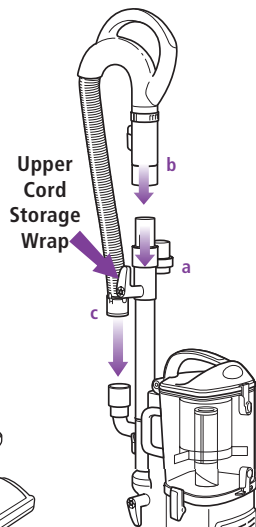

Fig. 9
- 4 Slide the accessory holder (a) positioned opposite the upper cord wrap, over the extension wand. Align the tab with the groove and push down. (Fig. 9)
- 5 Push the handle (b) onto the top of the extension wand until you hear it click into place. (Fig. 9)
- 6 Insert the end of the stretch hose (c) into the connector on the back of the detachable canister. (Fig. 9)